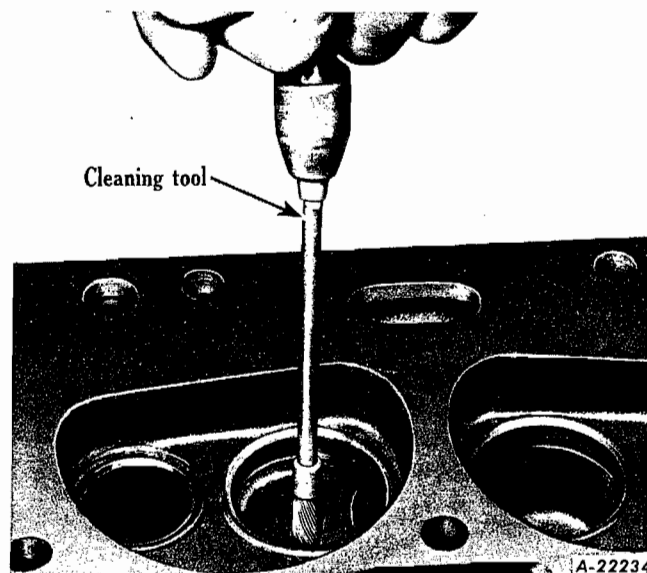
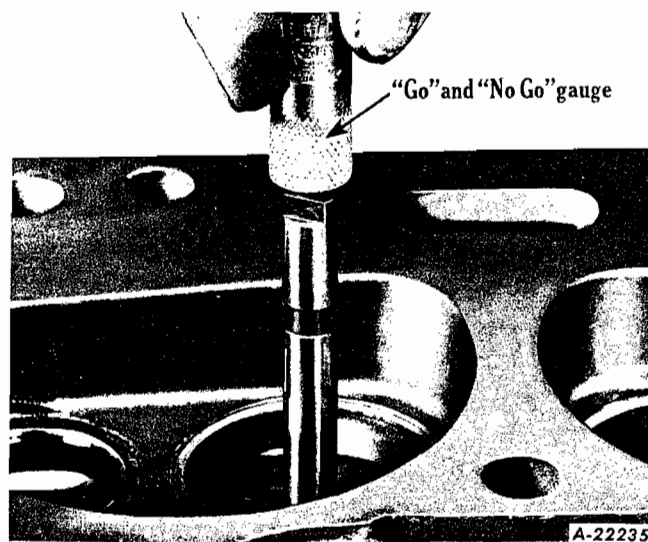

Fig. 10
Fig. 11 - Use SE-1145 "Go and No-Go" set.
1. Clean valve guides with a suitable cleaning tool (Fig. 10). Check each valve guide with a "Go and No Go" gauge (Fig. 11), if available; otherwise, use a new valve to check fit. If "No-Go" portion of gauge enters, the guide must be replaced. Recommended valve stem to valve guide clearance is